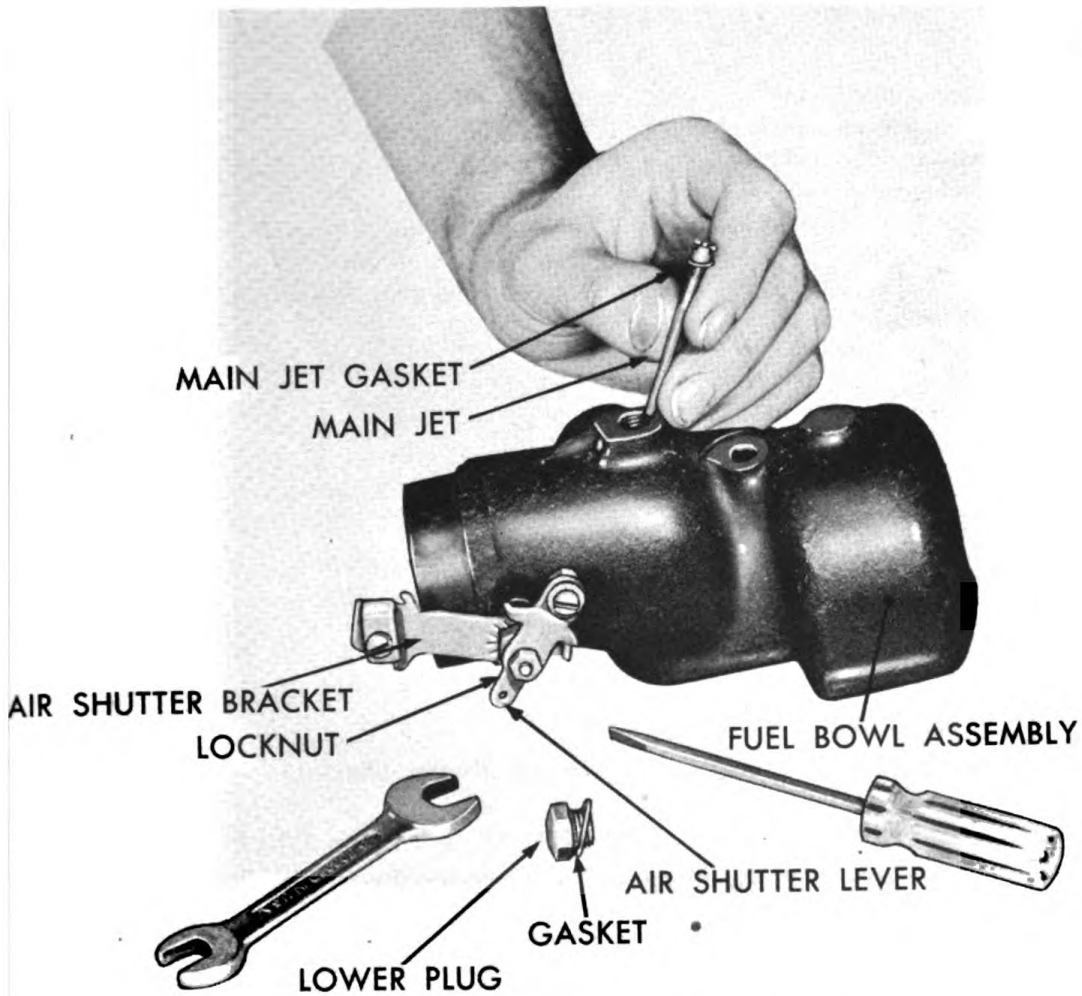

Figure 290. Removing Carburetor Main Jet.
- h. Remove main jet (C161-83 service tool). See figure 290.
- h. Install compensator jet and gasket using screw driver. See figure 290.
- i. Install main jet and gasket (C161-83 tool). See figure 290.